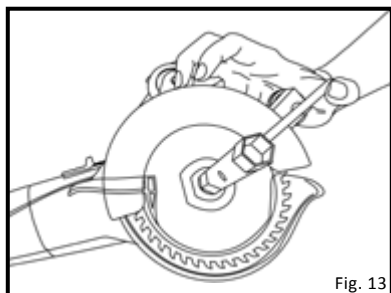

Fig. 13
5. Tighten lock nut using blade wrench tool. (Fig. 13)